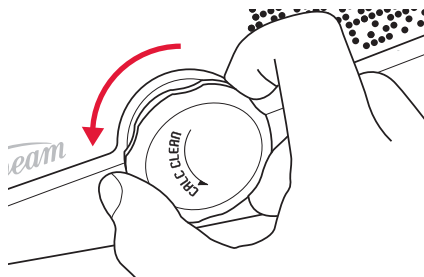

Figure 7
3. Slowly turn the calc clean boiler cap anti clock wise. See fig 7.